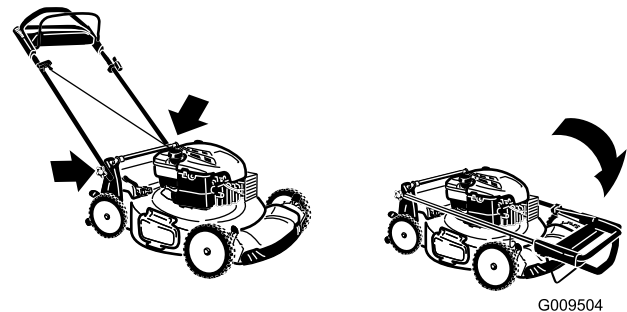

Figure 32
3. Fold the upper handle forward as shown in Figure 32.